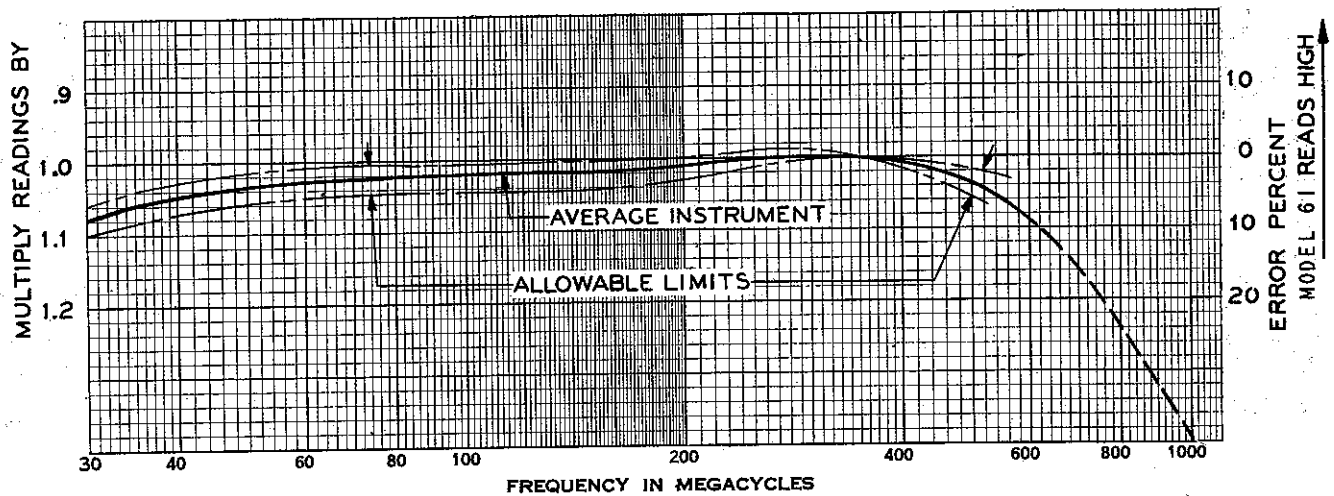

Fig. 2-6. Power Calibration vs. Frequency — RF Wattmeter Model 61
(See Fig. 2-6)
a. Fig. 2-6 shows the frequency error of the average wattmeter. The limit curves indicate the maximum deviations allowed in calibration.